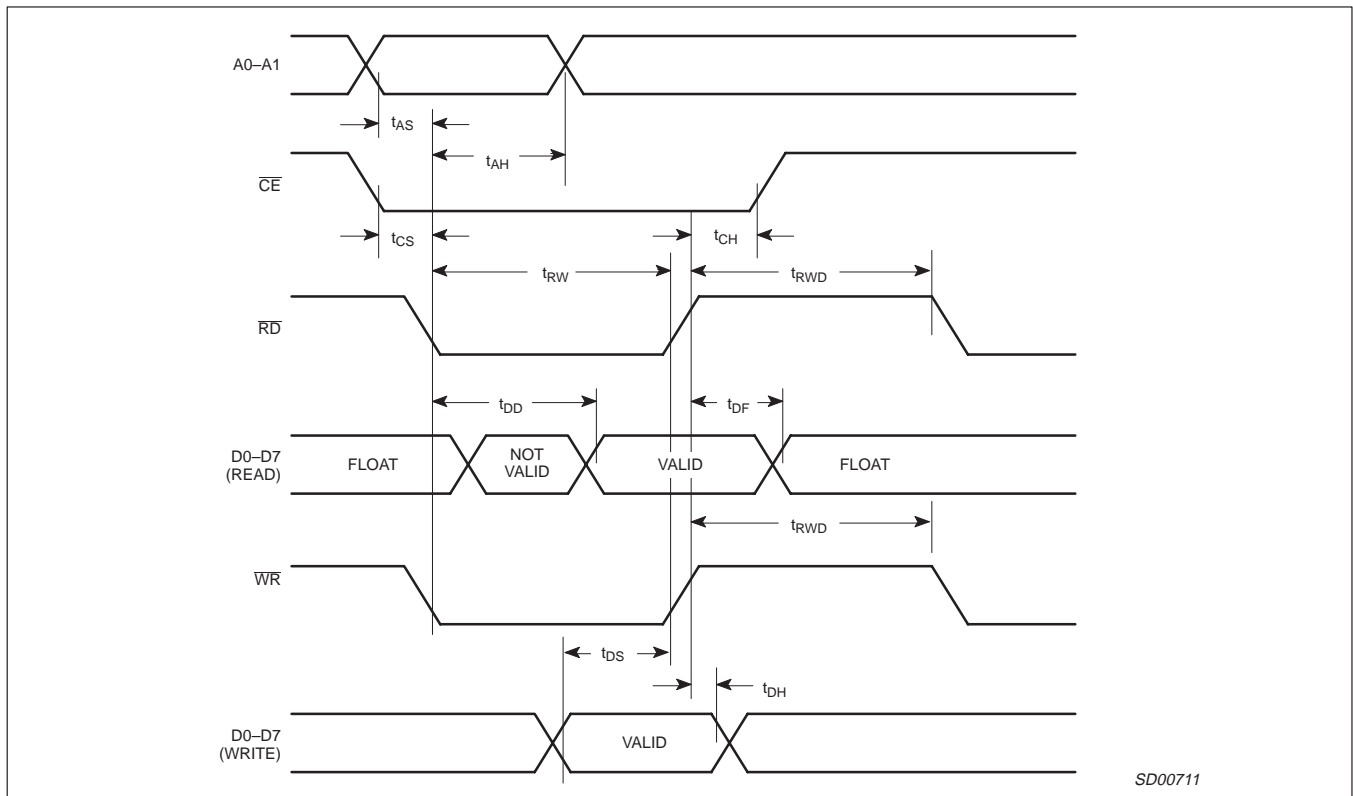

Figure 20. Bus timing
| Bus Timing (See Figure 20, 21) | | | | |
- All voltage measurements are referenced to ground (GND). For testing, all inputs swing between 0 V and 3.0 V with a transition time of 5 ns maximum. All time measurements are referenced at input voltages of 1.5 V and output voltages shown in Figures 20–21.